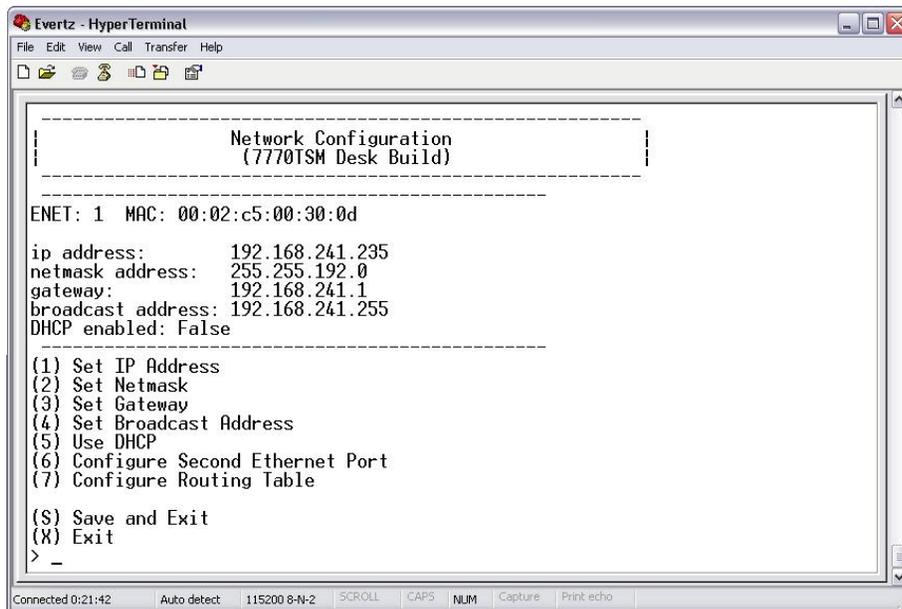

Figure 2-3: Network Configuration Sub-Menu
From the main menu, select option (1), for Network Configuration and press return. The Network Configuration sub-menu will appear as shown in Figure 2-3: